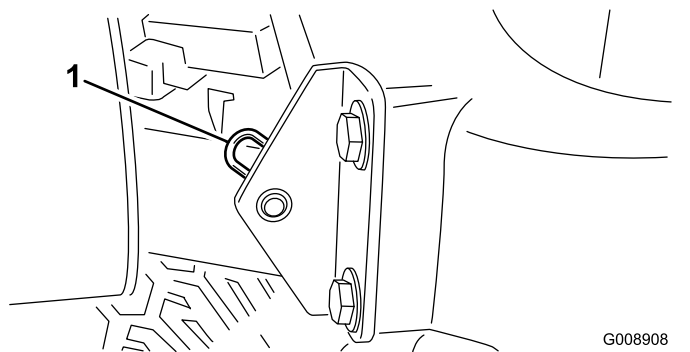

Figure 48
2. Remove the cotter pin that secures the hood pivot to the mounting brackets (Figure 48).